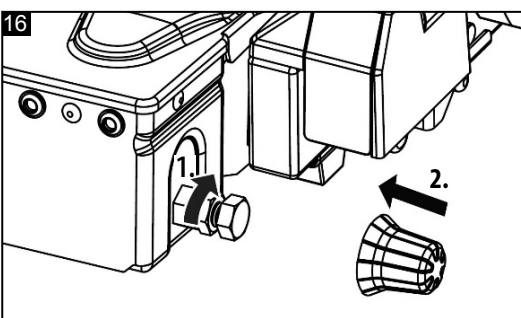

Figure 16: Tightening the lock nut
- Tighten the lock nut (Fig. 16).